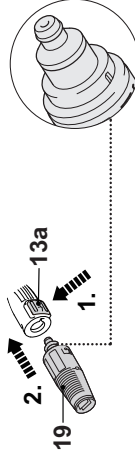

Fig. 10
2. Press the unlock button (13a) and attach the vario nozzle (19) to the extension lance (13). Release the button (13a) to secure the nozzle in place (Fig. 10).
3. Check if the nozzle (19) is attached properly by pulling on it. It should not pull out.